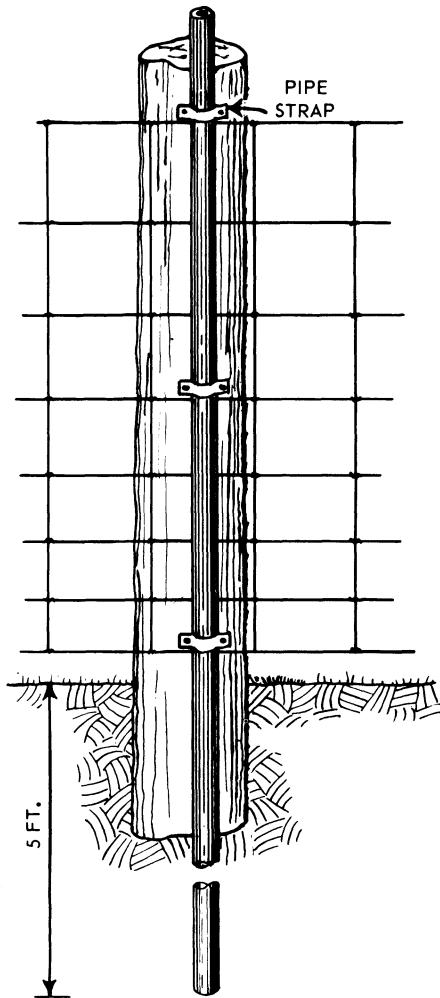

Figure 15.—Wire fence grounded by driving a steel pipe into the ground.
2. Drive $\frac{1}{2}$ - or $\frac{3}{4}$ -inch steel rod or pipe 5 feet into the ground alongside wooden fenceposts at 150-foot intervals. Allow a few inches of the ground rod or pipe to extend above the top of each post. Fasten the rods or pipes to the posts with pipe straps so that they touch all the fence wires (fig. 15).